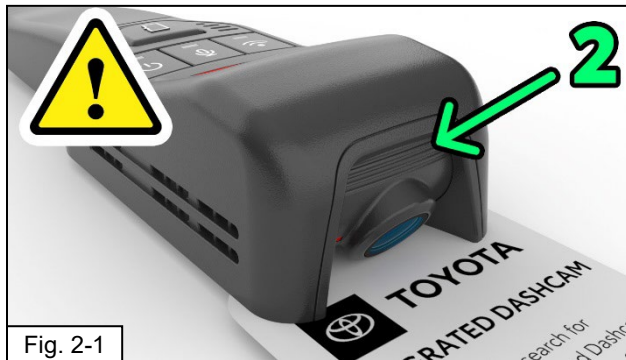

Fig. 2-1
- (b)  Confirm Camera Angle Position – 2 visible recessed lines should be seen below the lens with the camera held in the as-installed orientation. (Fig. 2-1, Note: Camera is upside down in the image)